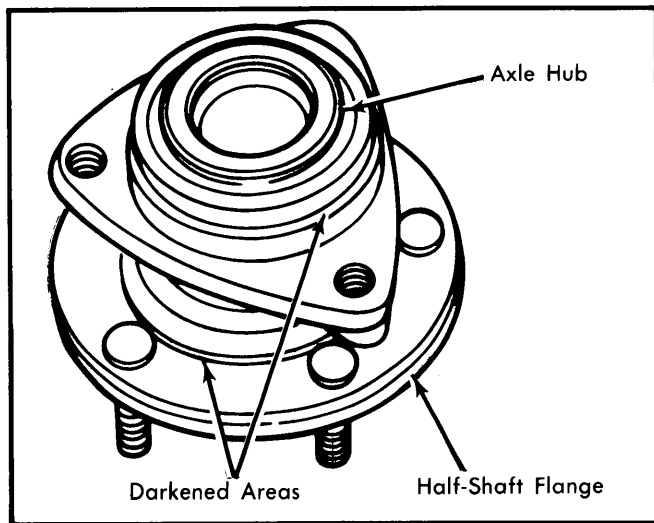

Fig. 2 Eagle Axle Hub Assembly
**NOTE** – Eagle models have a unique front axle hub and bearing assembly. The assembly is sealed and does not require lubrication or periodic maintenance. The hub has ball bearings which seat in races machined directly into the hub. There are darkened areas surrounding the bearing race areas of the hub. These darkened areas are from heat treatment process, are normal and should not be mistaken for a problem condition. See Fig. 2.